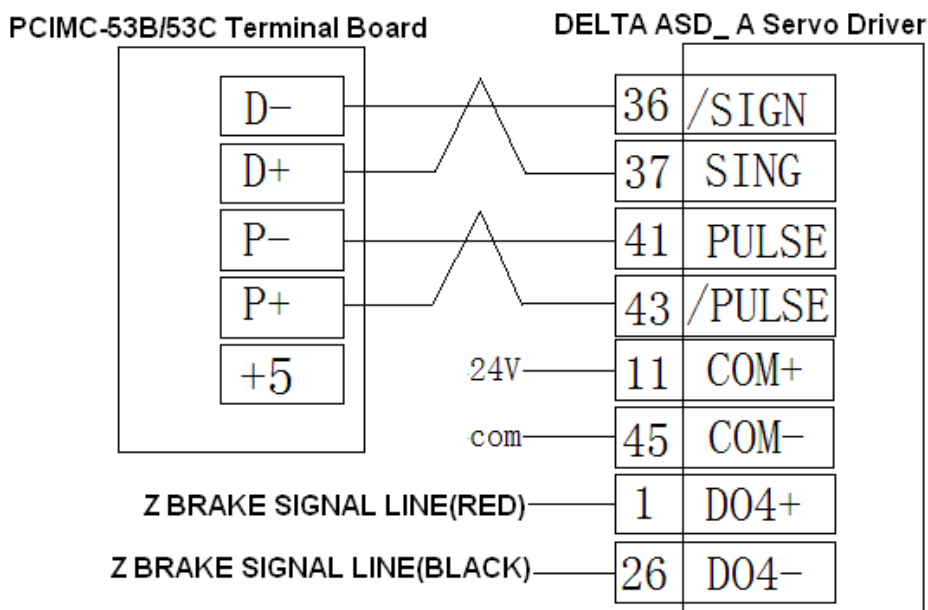

Fig. 4-12 Connection between Terminal Board EX1D and DELTA ASD_A Servo Driver
- 1) Wiring diagram of connection between terminal board EX1D and DELTA ASD_A (little difference in connection between AB series and A series) servo driver is shown below in Fig. 4-12: